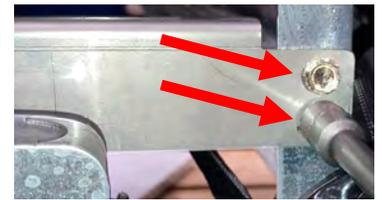

Figure 17
19. Remove the four (4) 5/16" cabinet screws from both sides of the existing pan switch brace (see Figure 17). **NOTE: It may be necessary to remove the junction box to remove the screws on the left side of the brace.**